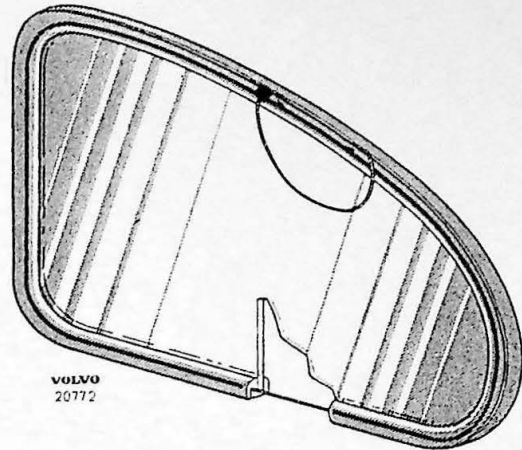
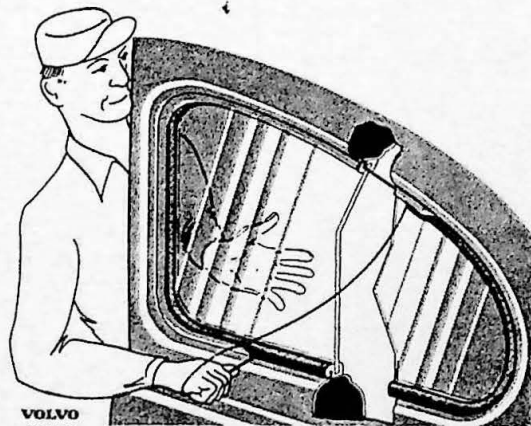

Fig. 31.
Fig. 32.
4. The pane is fitted by placing both it and the cord in the rubber weatherstrip as shown in Fig. 31. Hold the pane pressed against the opening and pull the cord, Fig. 32.